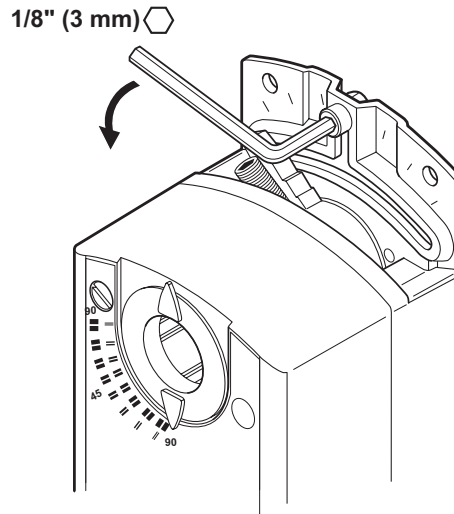

Figure-4 Loosening the Stop Set Screw.
1. Loosen and remove the stop set screw and nut from the actuator, referring to Figure-4.